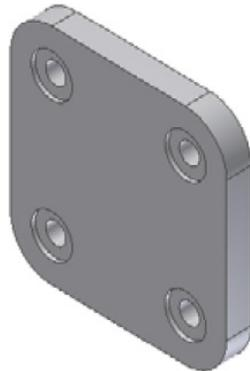

Figure 7-64 Model after creating the counterbore holes
- b. On the front face of the base feature, create counterbore holes by using the center points of fillets as the center of holes, refer to Figure 7-64.
The model after creating the counterbore holes is shown in Figure 7-64.